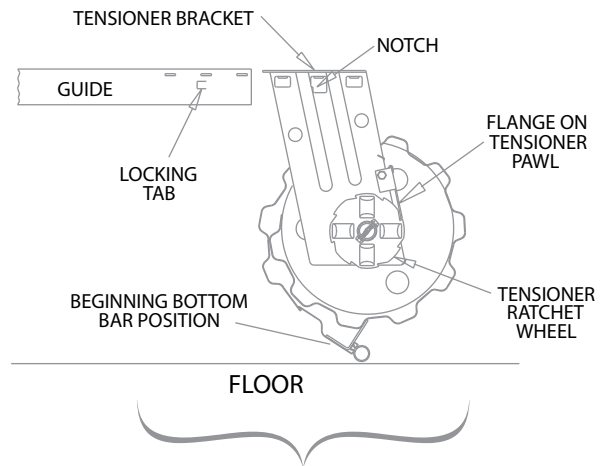

FIGURE 3
- At tensioner end of door, lift flange on tensioner pawl until end of the pawl clears the tensioner ratchet wheel. Rotate bracket in order to position short leg end upward. Release flange on pawl and allow end to engage with the nearest tooth on the ratchet wheel. **See figure 3.**